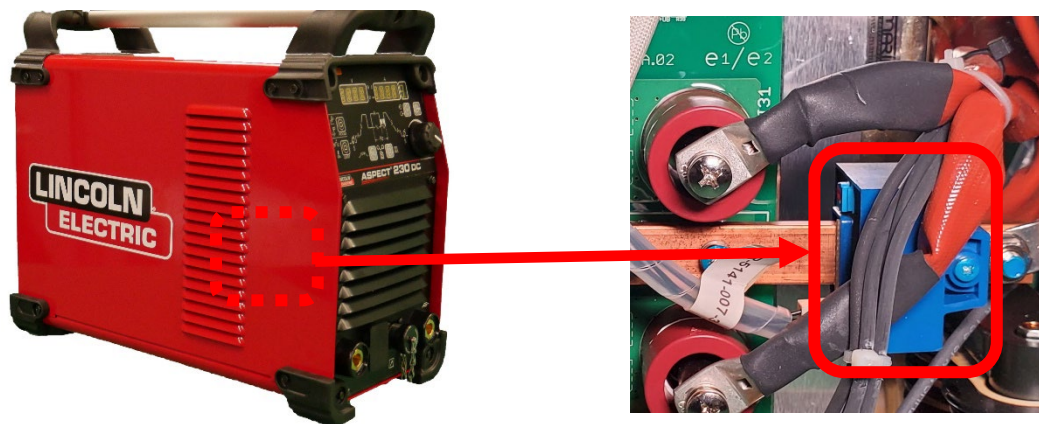

Figure F.1
1. For location of the Current Transducer refer to Figure F.1.